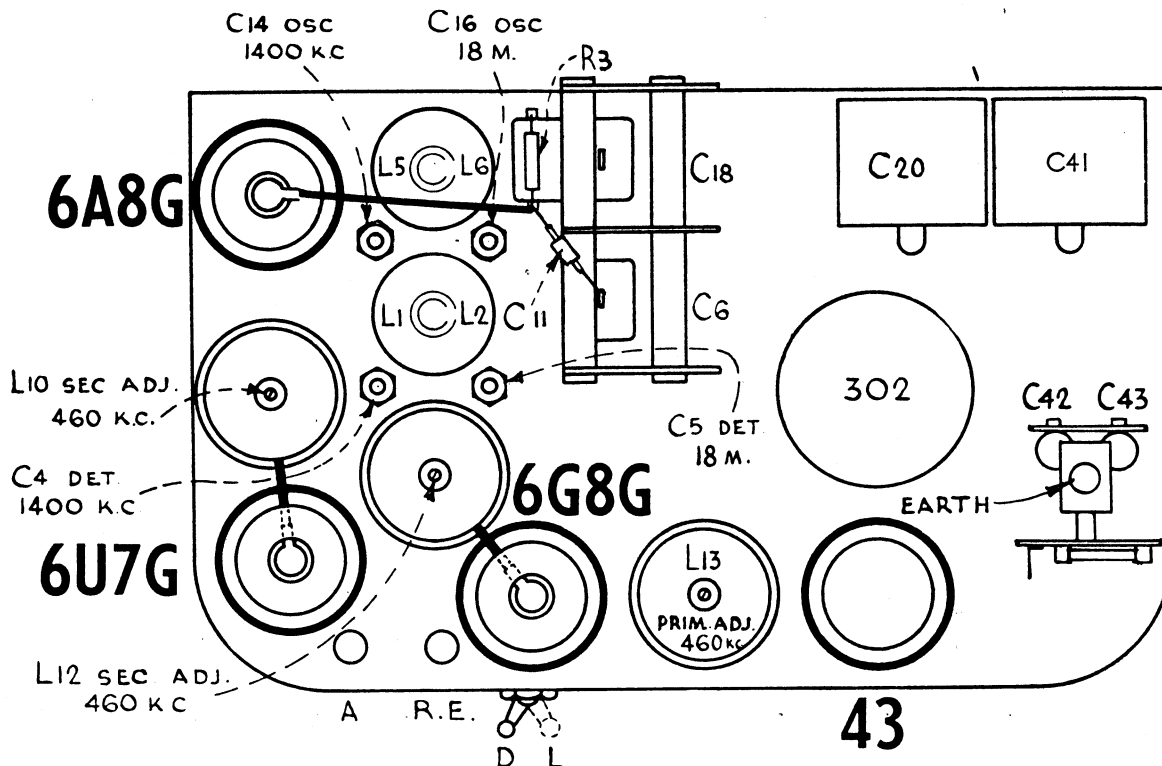

Fig. 1.—Lay-out Diagram (top view).
Perform alignment in the proper order starting with No. 1 and following all operations across. then No. 2, etc. Adjustment locations are shown in figs. 1 and 3. Keep the Volume Control set in the maximum clockwise position and the Sensitivity Switch at Distant (D), and regulate the output of the test instrument so that a minimum signal is introduced to the receiver to obtain an observable output indication. This will avoid A.V.C. action and overloading.